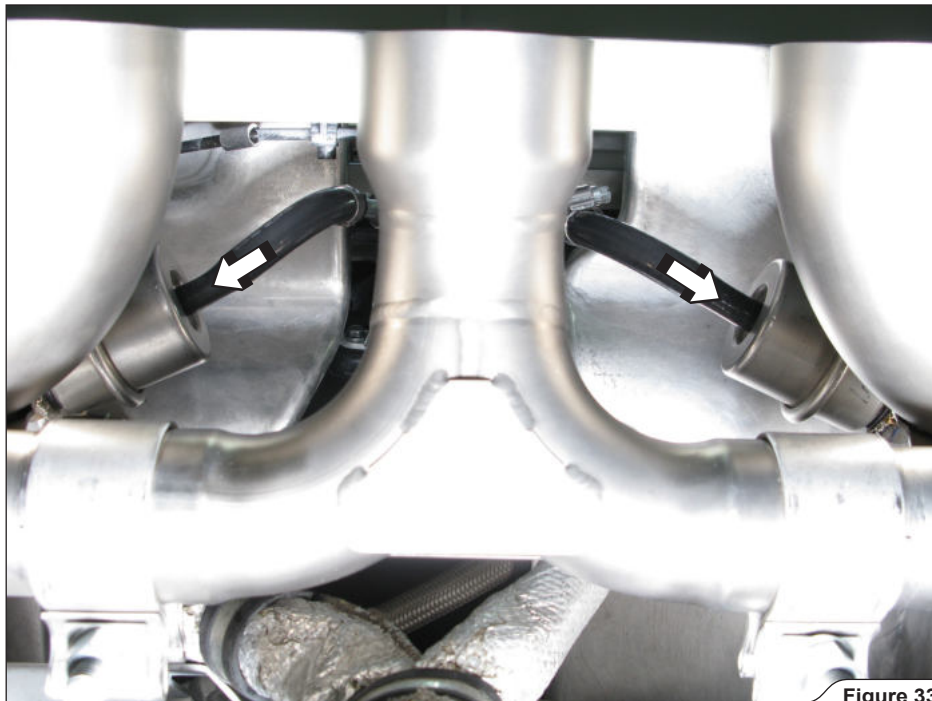

Figure 33
14. **For Slip-On and optional Link Pipes:** attach the vacuum hoses onto the vacuum actuators (Figure 33).